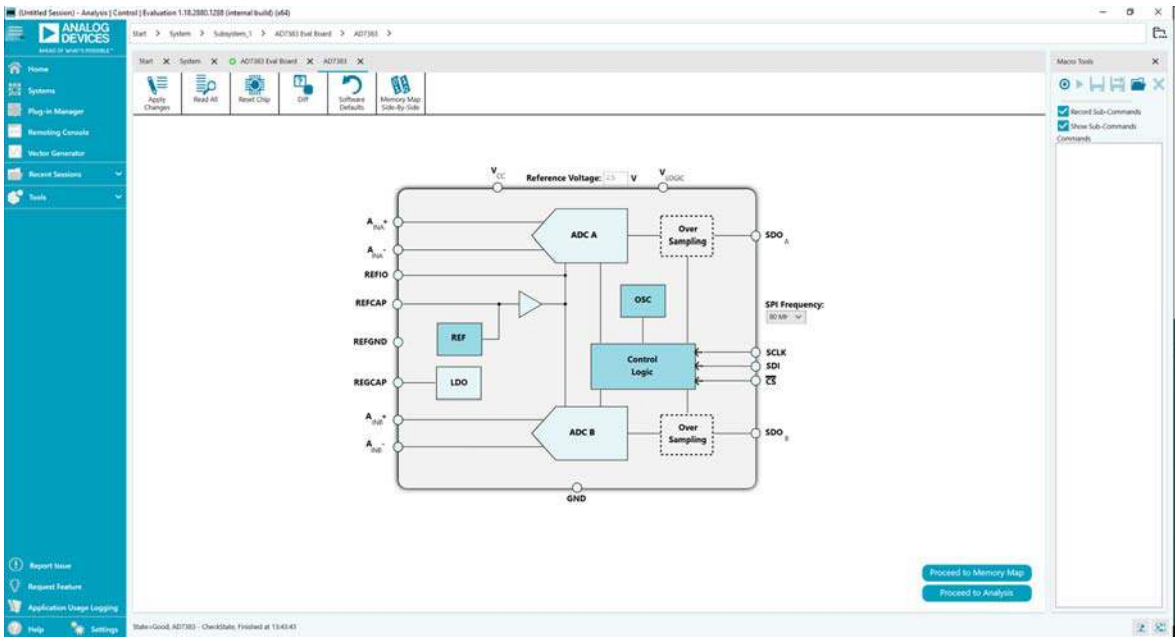
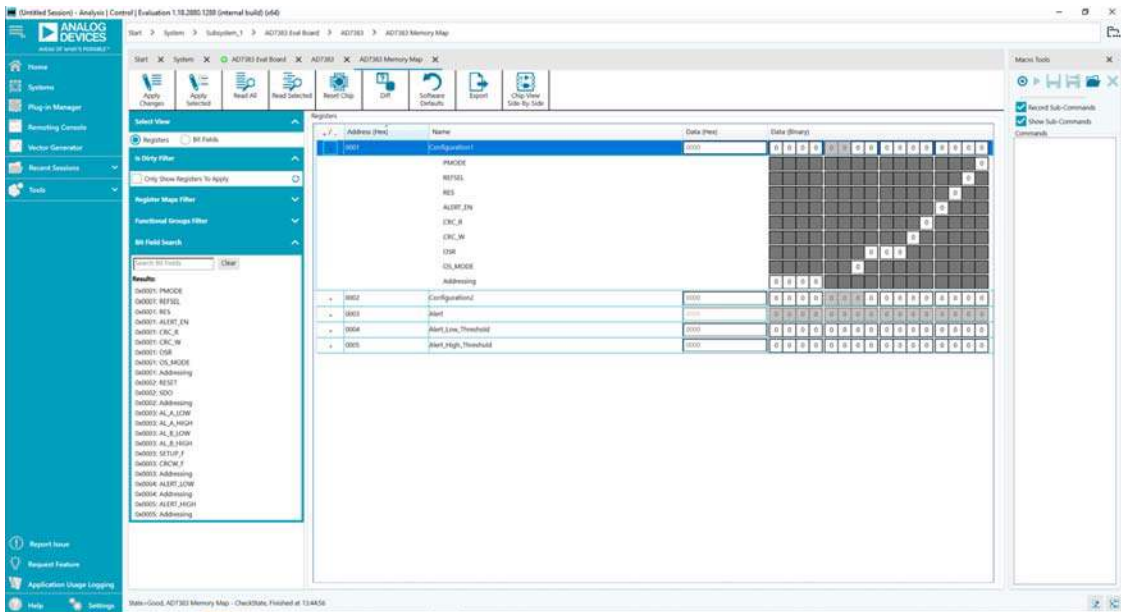
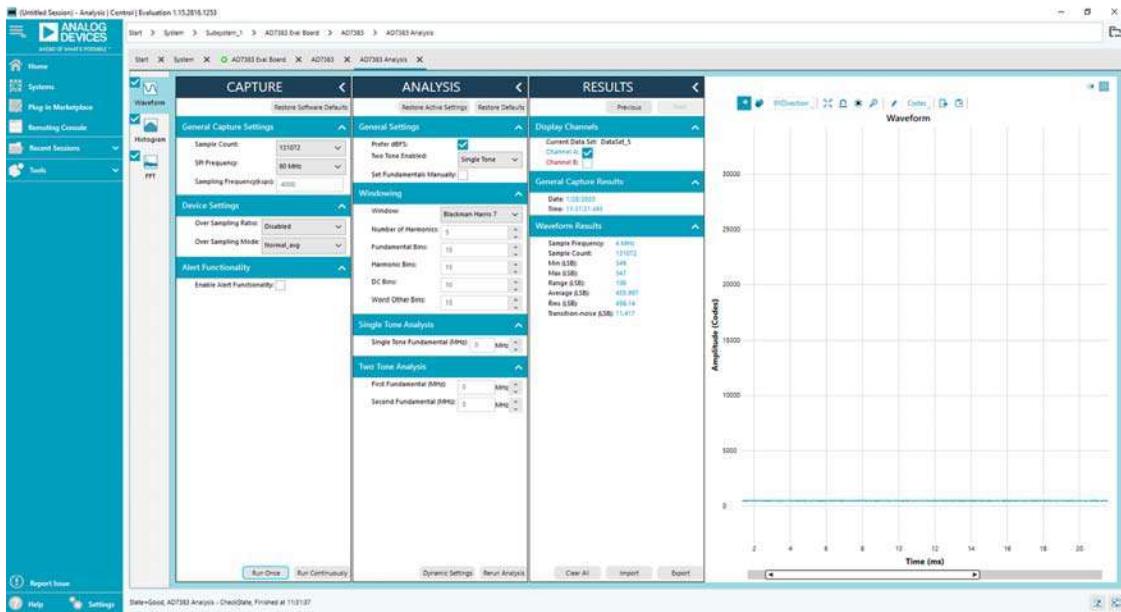

Figure 14. AD7383 Chip View Window
Figure 17. AD7383 Memory Map View Window
Figure 18. AD7383 Analysis View Window
4. Double click the **AD7383** chip icon in the **AD7383 Eval Board** view window to open the **AD7383** chip view window shown in Figure 14.
5. Click **Software Defaults** and then click **Apply Changes** to apply the default settings to the **AD7383** (see Figure 14).
Click **Proceed to Memory Map** in the AD7383 chip view window (see Figure 14) to open the AD7383 Memory Map view window shown in Figure 17. The AD7383 Memory Map view window shows all registers of the AD7383.
Click **Proceed to Analysis** in the AD7383 chip view window (see Figure 14) to open the AD7383 Analysis view window shown in Figure 18. The AD7383 Analysis view window contains the **Waveform** tab, **Histogram** tab, and **FFT** tab.